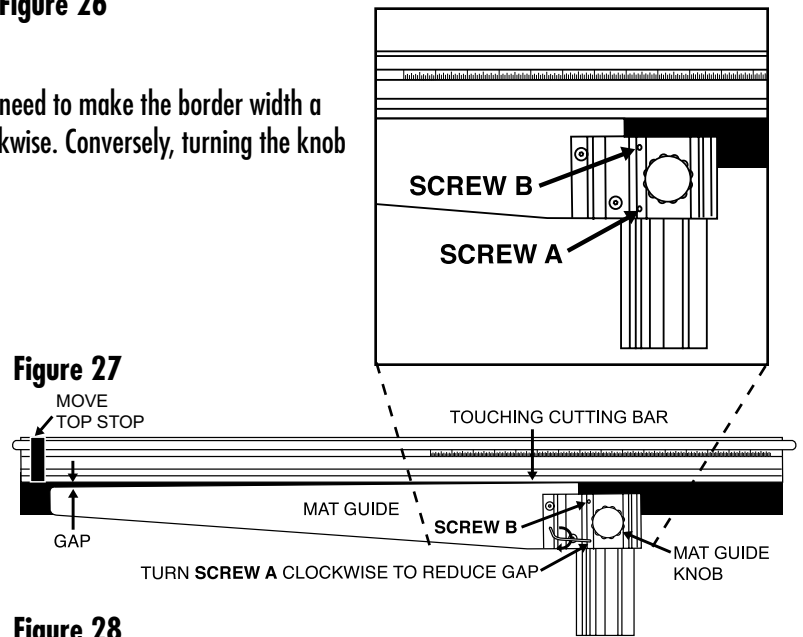
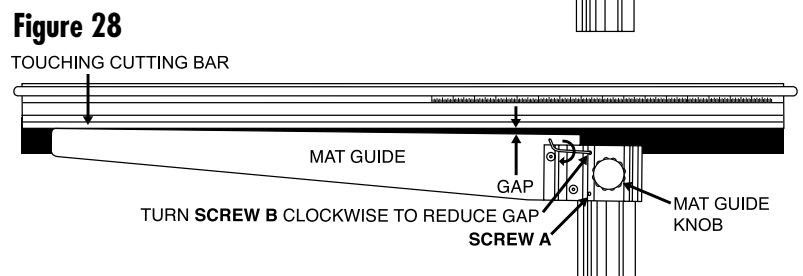

Figure 27
Figure 28
1. Move top stop to end of machine (Figure 27).
5. To eliminate gap, loosen mat guide knob and turn screw using allen wrench provided. Use Screw A if gap is near the end of the machine (Figure 27). Use Screw B if gap is near the mat guide knob (Figure 28).